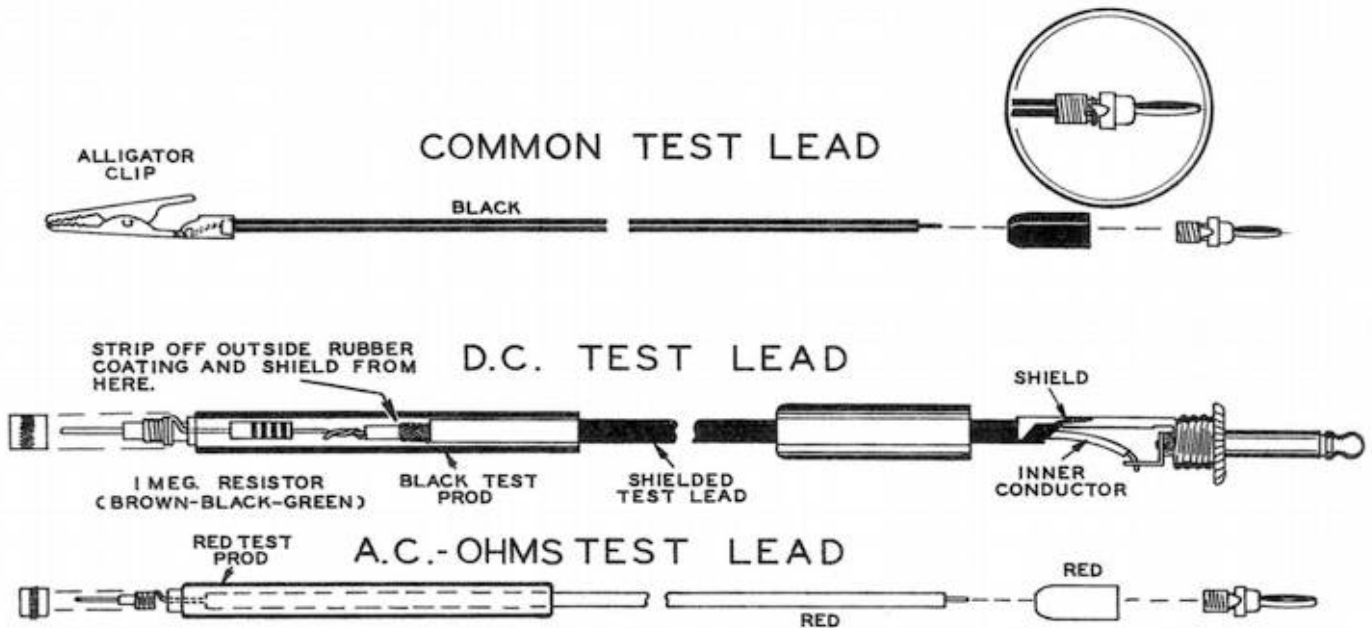

Figure 3: The three test leads supplied with the IM-10 and IM-32.
The IM-10 came with same three test leads as the V-7(A) See **Figure 3**:
When measuring AC voltages the input is connected to the AC rectifier circuit (Refer back to the right side of **Figure 3**) For AC ranges from 1.5 V to 150 V, the voltage to be measured is fed through C1, referenced to ground through the three resistor AC voltage divider chain and fed to the 6AL5, which is wired as a half-wave voltage doubler, producing a DC voltage approximately equal to the peak-to-peak voltage of the input AC voltage.